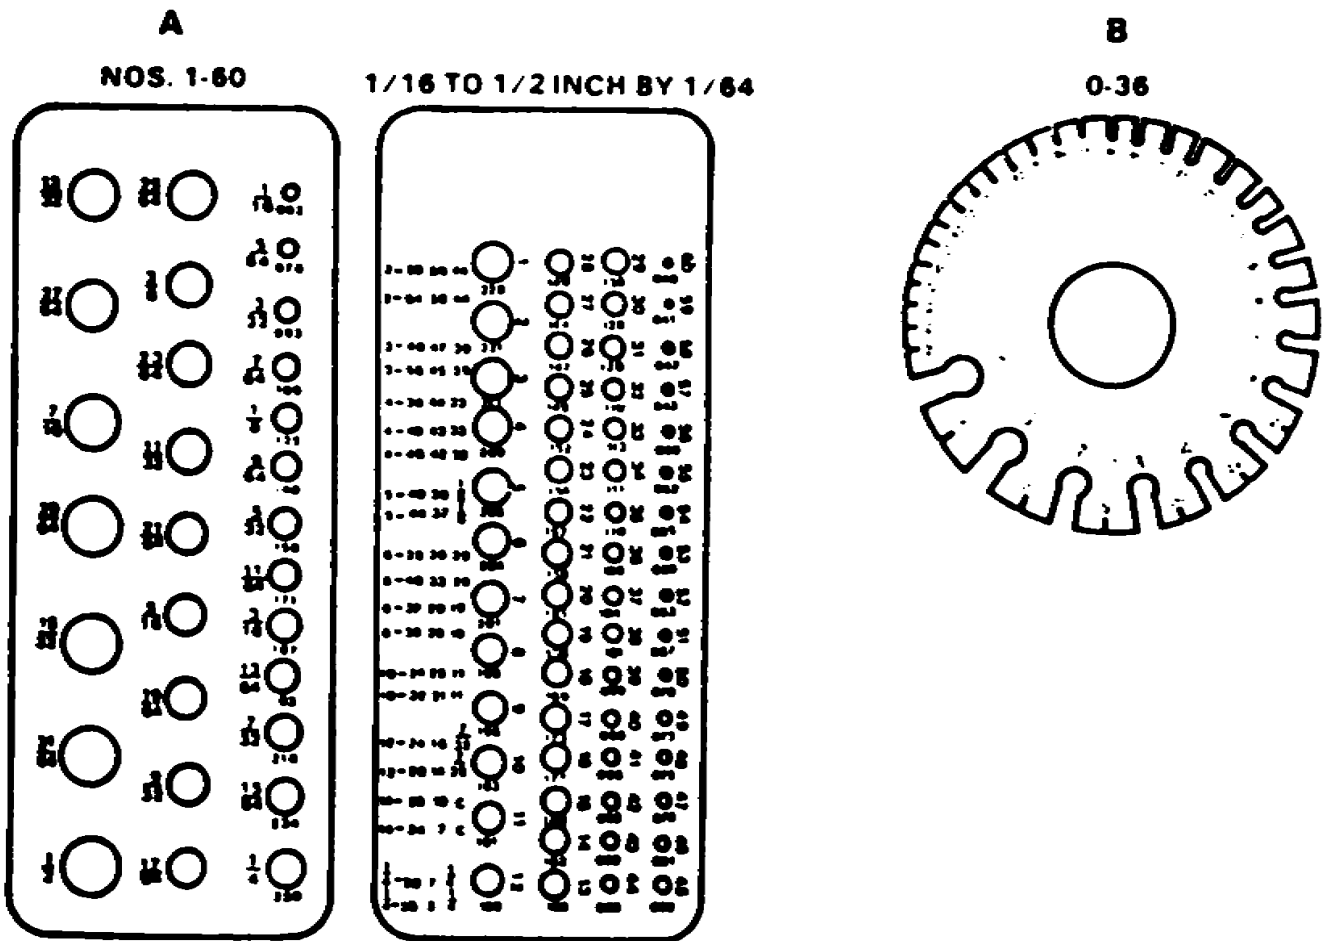

FIGURE 50. WIRE AND DRILL GAGES (PARTS A AND B)
- a. The twist drill and drill rod gages, Figure 50, Part A, each have a series of holes with size and decimal equivalents stamped adjacent to each hole. One gage measures drill sizes numbers 1 to 60; the other gage measures drill sizes 1/16 to 1/2 inch by 1/64-inch intervals.
- b. Wire gages, Figure 50, Part B, are circular in shape with cutouts in the outer perimeter. Each cutout gages a different size wire, from 0 to 36 of the English standard wire gage. A separate gage is used for American standard wire and another for US standard sheet and plate iron and steel.